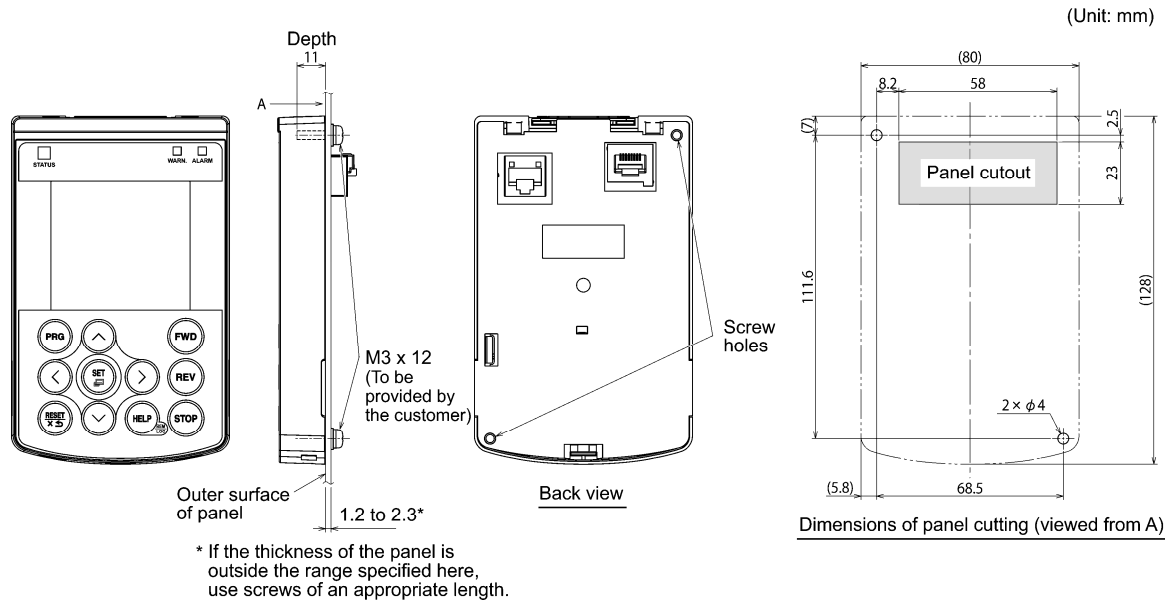

Figure 5.8 Location of Screw Holes and Dimension of Panel Cutout
- (2) Cut the panel out for a single square area and perforate two screw holes on the panel wall as shown in Figure 5.8.